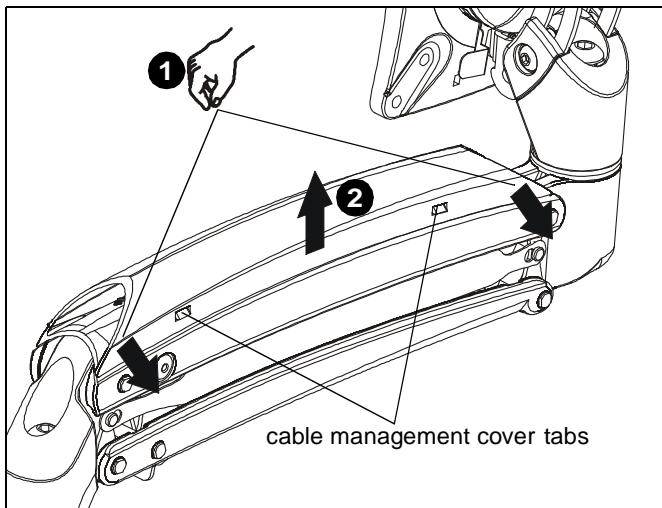

Figure 27
1. Press insides of cable management covers at both ends to unhinge tabs on either end of cable management cover on upper arm. (See Figure 27)
2. Lift cable management cover up until tabs are unhinged and cover is in the "open" position. (See Figure 27)